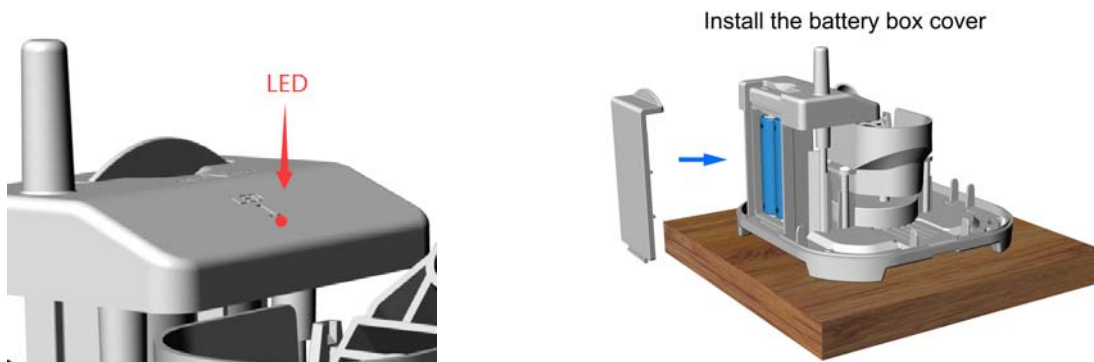

Figure 6
3. The Rain gauge sensor LED indicator will light for 3 seconds, and then flash once per 60 seconds there after. Each time it flashes, the sensor is transmitting data, as show in Figure 6.